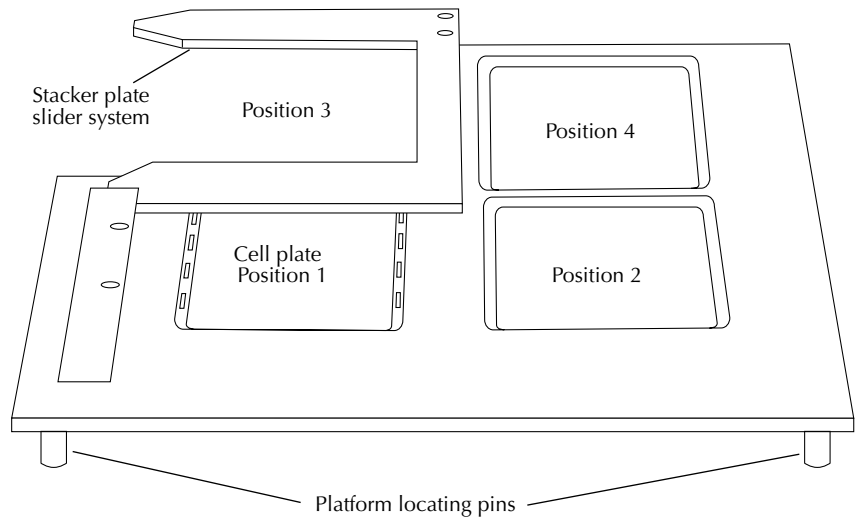

**Figure 6-3:** Diagram of the stacker belt locating pins on the instrument platform.
- 3) Position the plate stacker on the laser cover, which is located on the left side of the FLIPR384 instrument. The stacker belt should be parallel to the laser. Make sure the two reference pins located on the FLIPR384 platform fit into the two locating holes in the stacker belt (see Figure 6-3).